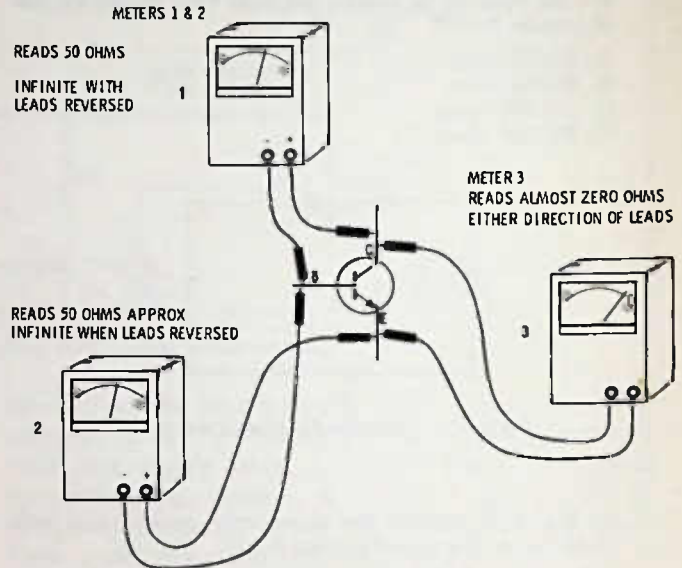

Fig. 9-25. Diagram for Question 20.
20. In Fig. 9-25, the transistor